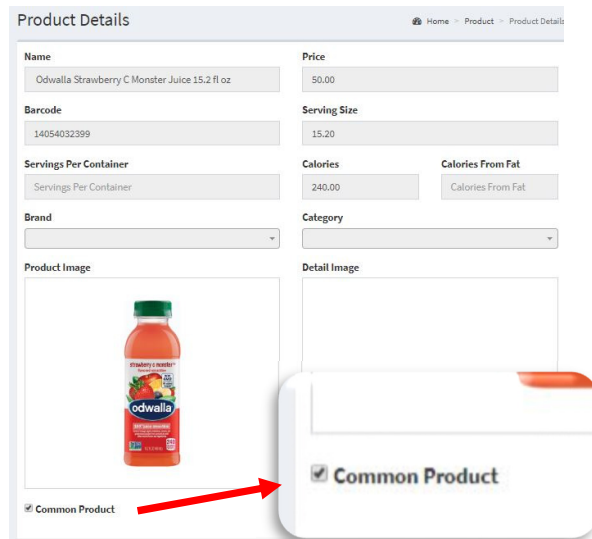

Figure 62
- You can easily select products that are commonly used between multiple machines by placing a check mark in the common check box located on the lower left corner of the Product Details screen for each product (See Figure 62).